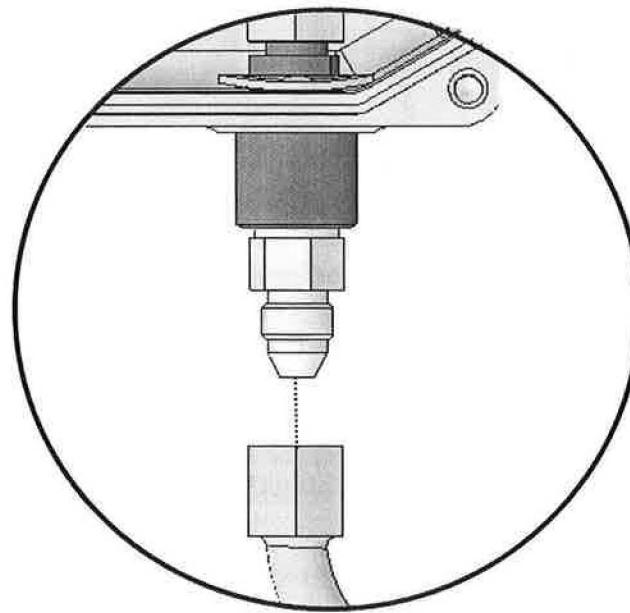

Figure 5-15. Fitting on Outside of UCH Control System
7. After ensuring there is no leakage, loosen the swivel fitting located at the bottom right side of the UCH Control System (see Figure 5-15). Allow the pressure to vent slowly. When the pressure is completely vented, disconnect the fitting and remove the cover.